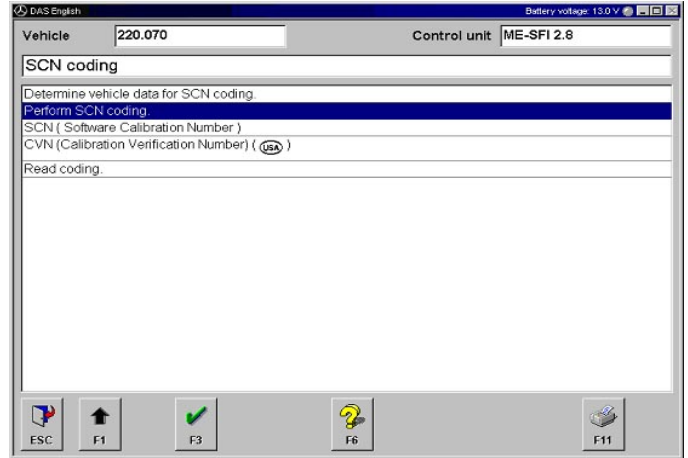

Figure 3
- Perform SCN Coding – Select ‘Perform SCN Coding’, Press ‘F3’. (Figure 3)